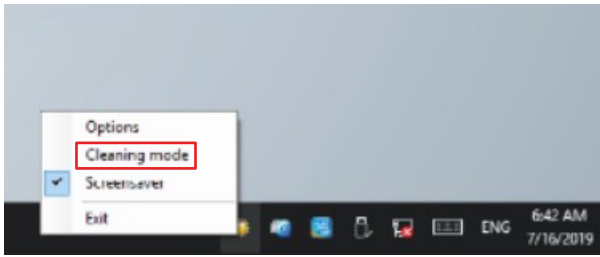

Fig. 21: CP29xx_Select Cleaning mode
3. Select the "Cleaning Mode" (see Fig. 21).